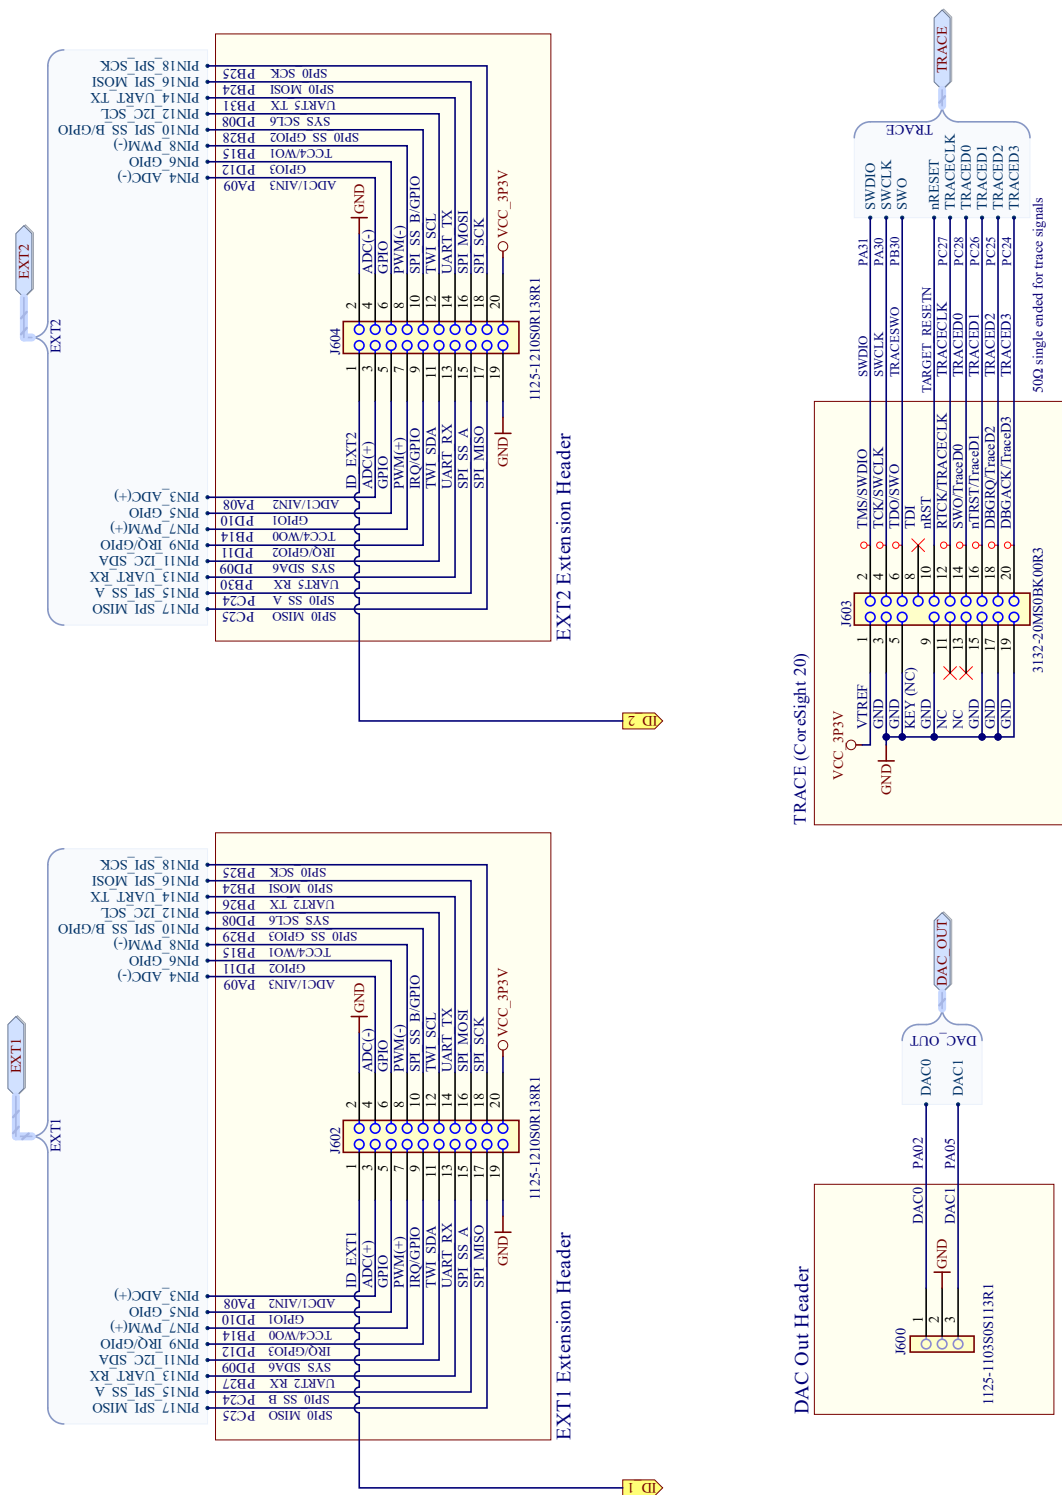

Figure 2-7. Memory Schematic
- Memory Schematic, Figure 2-7